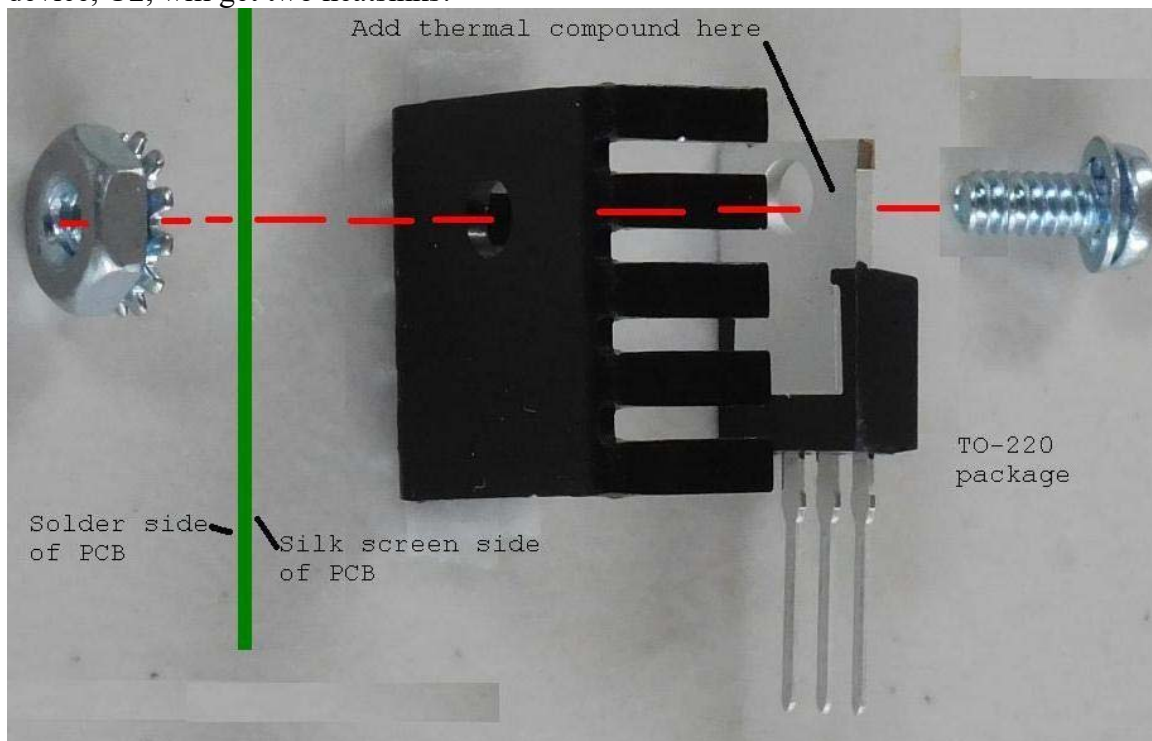
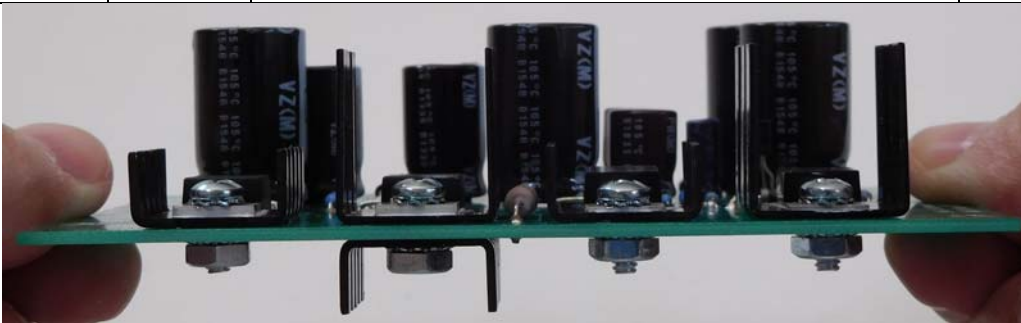

Figure 4-Regulator and Heat Sink Assembly Detail
Figure 6-Heatsink Installation
There are three regulators and one power transistor in TO-220 packages. Each TO-220 device fastens to the PCB (printed circuit board) with a heat-sink, heat-sink compound, a 6-32x3/8" screw and 6-32 keps nut (a nut with a built-in lock washer). Figure 4 shows the general assembly method. Note that there are two different size heat sinks, and one device, U2, will get two heatsinks!
- Fasten the regulator in place with the hardware as shown in Figure 4 and Figure 6.